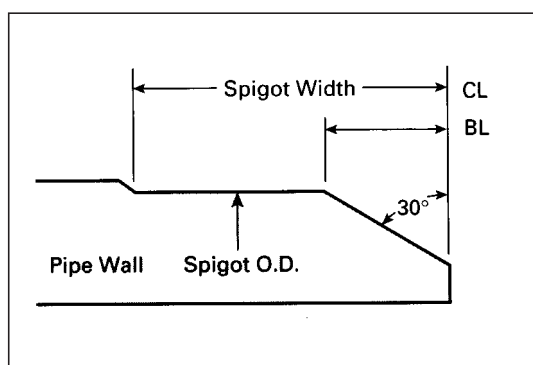

Figure 7.1
6. If the pipe diameter is not in the spigot tolerance range use a field lathe or grinder and machine the jointing (spigot) surface to the tolerance as indicated in *Table 7.1*. Bevel pipe end (See *Figure 7.1*).